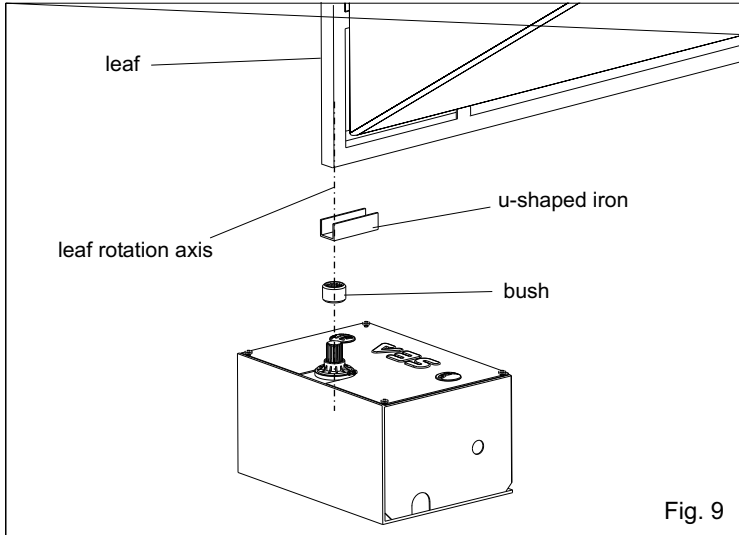

Fig. 9
**3.2.** Place the bush on the U-shaped iron referring to the rotation axis of the leaf hinge (Fig. 9);